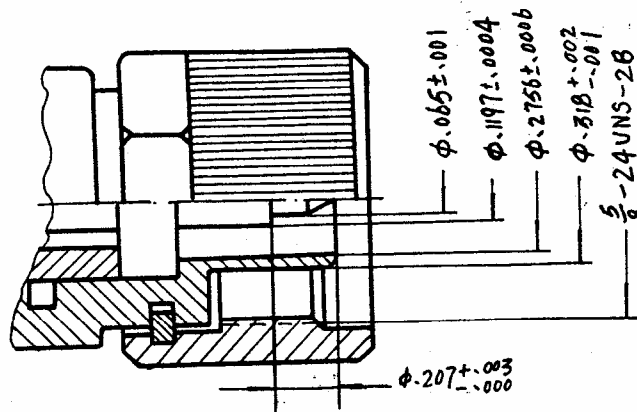

Fig. 4
5.2. The dimensions of the outer connector ( N type ) should conform to that given in Fig.4. Unqualified connectors will damage the connections between the connectors of the device and its strip lines.